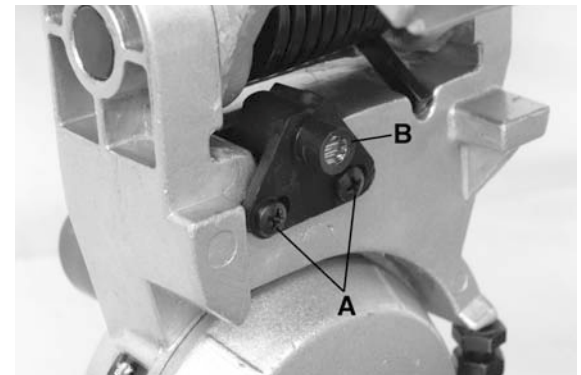

FIGURE 16
1. Loosen pan head screws (A) Fig.16 under the laser guide.
3. Move the laser assembly (B) until the laser beam is aligned with the saw blade (blade kerf) and retighten pan head screws.